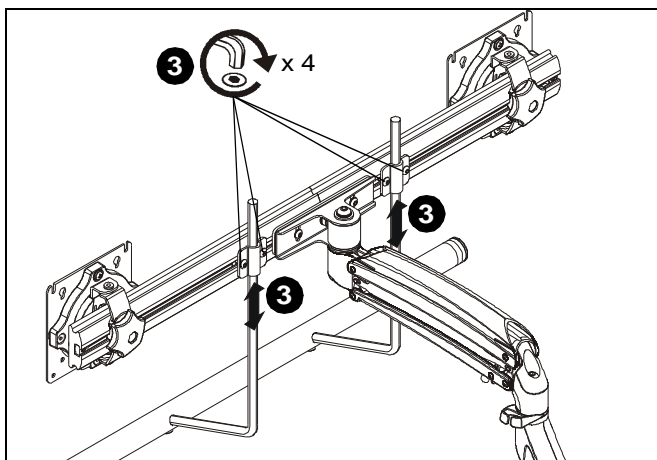

Figure 15
3. Position handle (J2) at desired height and secure by tightening button head cap screws attaching handle brackets to array. (See Figure 15)